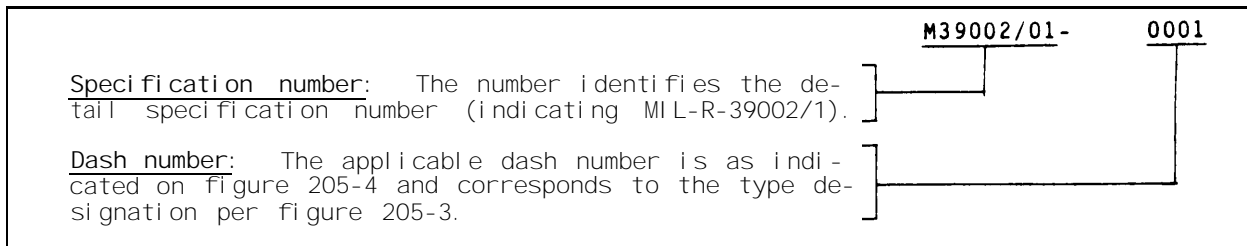

FIGURE 205-2. PIN example.
3. ITEM IDENTIFICATION (see figures 205-2 through 205-4).
3.1 PIN. The PIN is used for identifying the resistor as shown on figure 205-2.